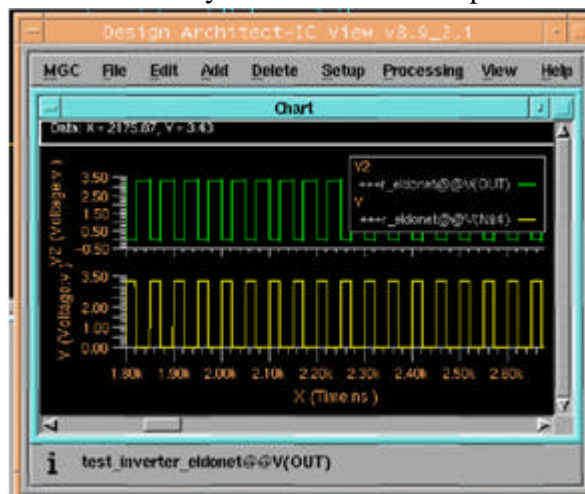

Figure 7-4. The results of Transient Analysis
5. View the results by clicking **Results>View>Invoke Viewer**. Click **Result>Xprobe>Voltages-Default** as shown in Figure 7-4.